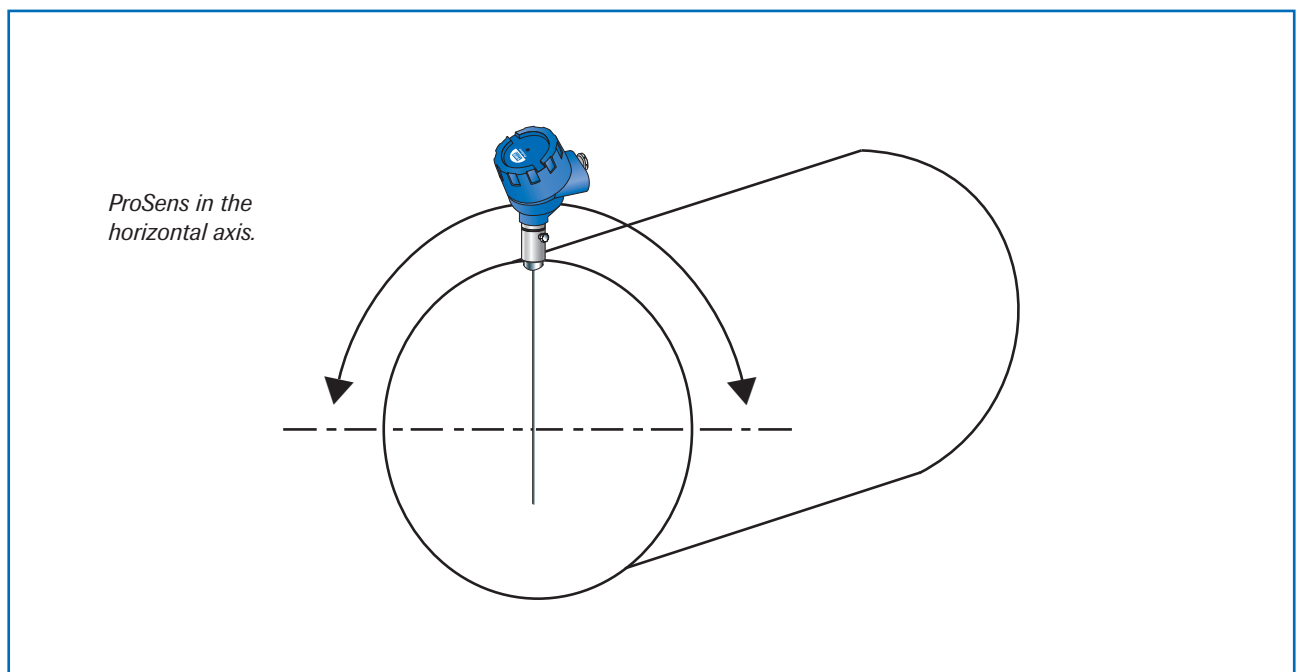

Fig. 3a: Round cross section
2. In round cross-section ducts the unit can be installed in any position above the horizontal axis (between 9 and 3 o'clock). (See figure 3a)